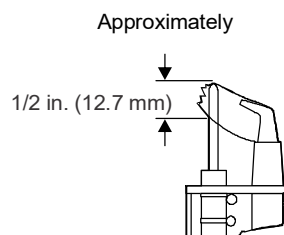

Figure 3: Flame Position
- A flame approximately ½ in. (12.7 mm) high must surround the thermocouple tip (Figure 3).